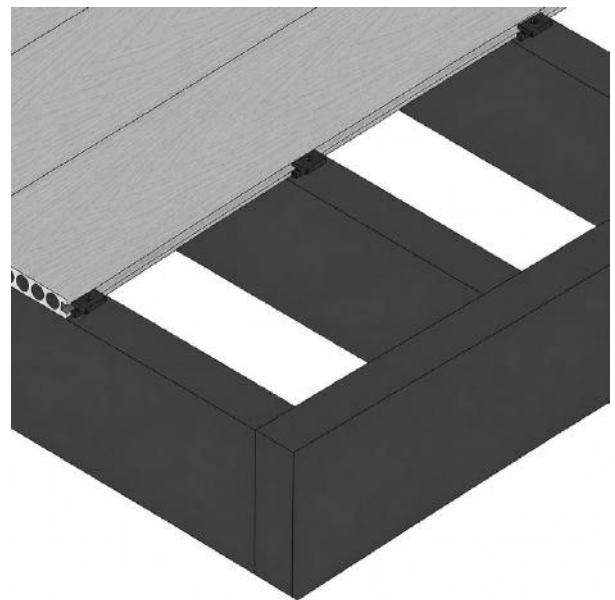

FIG. 7 - REPEAT UNTIL THE LAST TWO BOARDS REMAIN
- 02 Repeat steps 2–5 until you have reached the last 2 boards (fig. 7). The last board can be fixed in 1 of 2 ways, outlined in the next section.